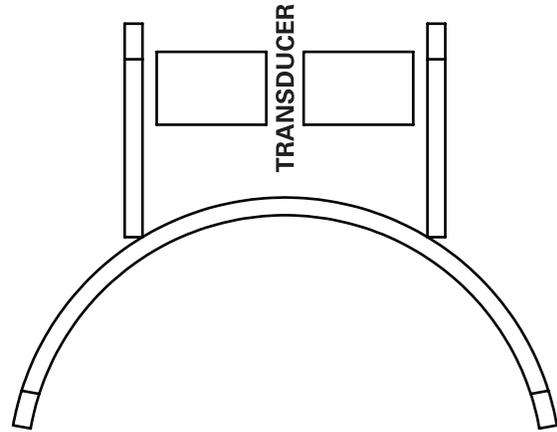

Figure 2
- o Install between one long spacer and one short spacer. (Figure 2)